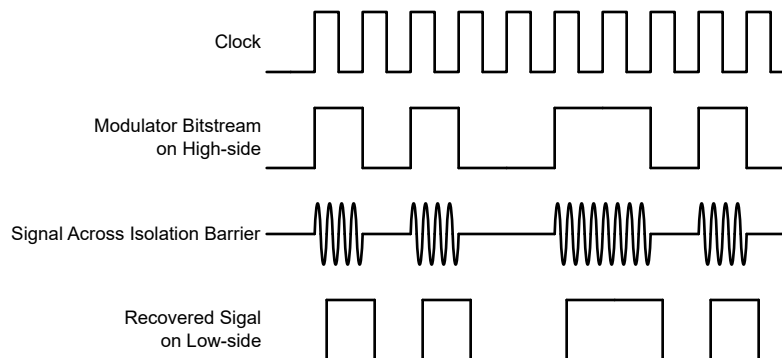

Figure 6-3. OOK-Based Modulation Scheme
The AMC3306M25-Q1 uses an on-off keying (OOK) modulation scheme, as shown in Figure 6-3, to transmit the modulator output bitstream across the SiO₂-based isolation barrier. The transmit driver (TX) shown in the Functional Block Diagram transmits an internally generated, high-frequency carrier across the isolation barrier to represent a digital one. However, TX does not send a signal to represent a digital zero. The nominal frequency of the carrier used inside the AMC3306M25-Q1 is 480MHz.